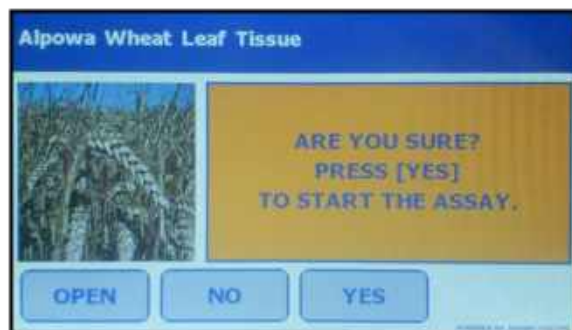

Figure V-5: Confirmation Screen for Recommended Program Assay Run
6. Press [RUN] to initiate the program. The FP-24 5G prompts for confirmation of the program run (Figure V-5).